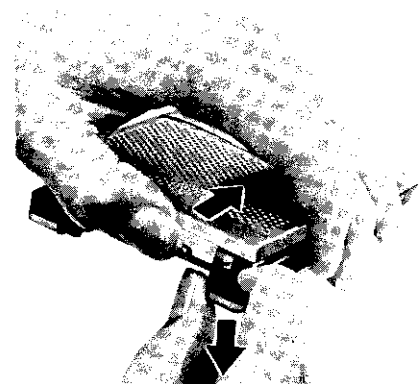

Fig. 3
5. Remove the catch in the direction of arrows, as shown in fig. 3.